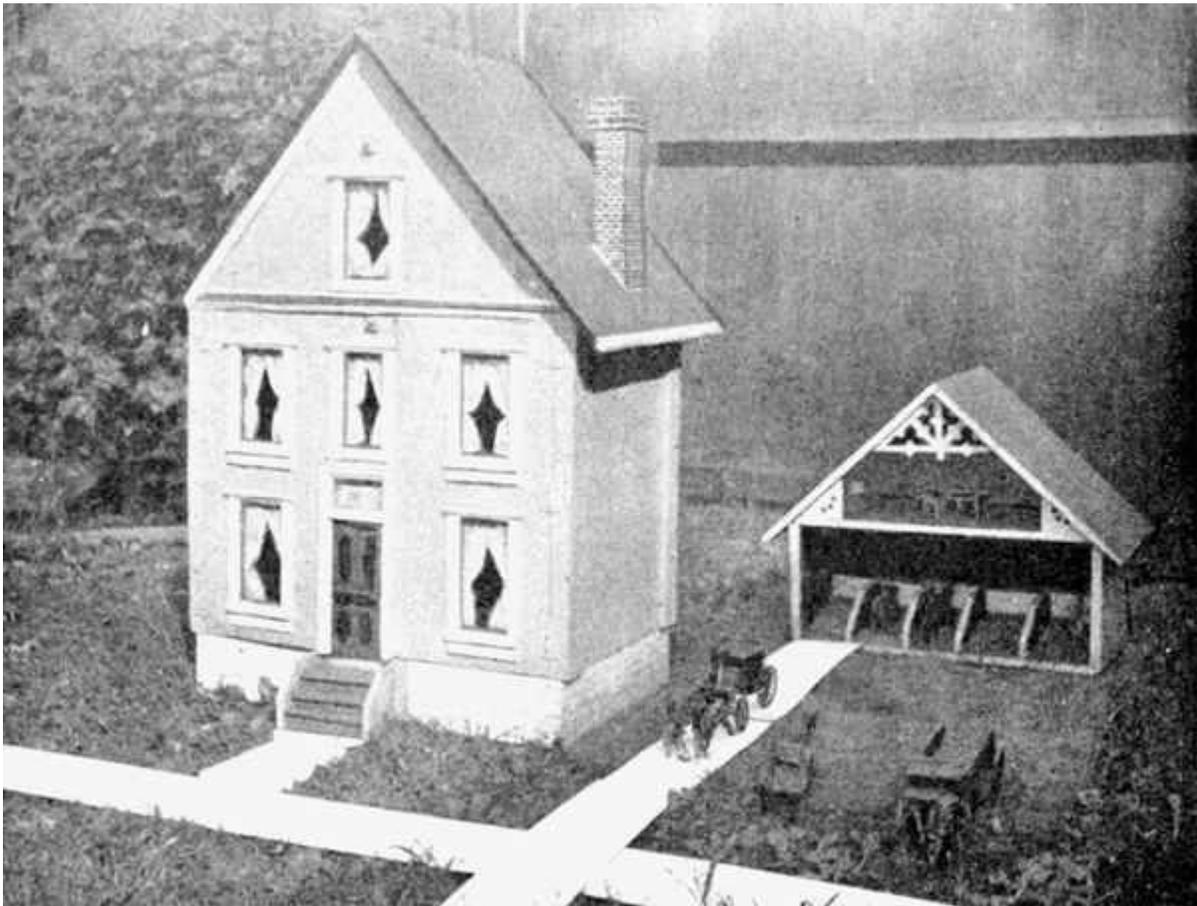

FIG. 96. Another Style of Doll-House.
**The Front Wall** is made in two sections, each hinged to a strip of wood an inch and one-half wide nailed to the two edges of the house, as shown in Fig. 96.
The stable shown in Figs. 114 and 115, and in the background of Fig. 96, will go nicely with the house described in this or the preceding chapter. Its construction is very simple. The dimensions are twenty-four inches wide, twelve inches deep, and twenty-two inches high, and the barn contains five stalls on the ground floor and a hay-loft above.